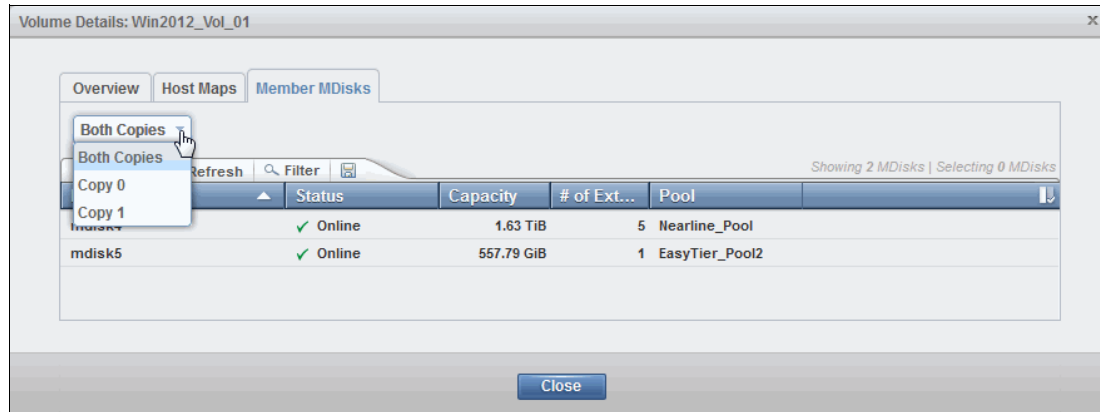

Figure 8-58 Member MDisk tab
1. If there are multiple copies of the volume, it is possible to select an individual copy, or choose to display **Both Copies**, as shown in Figure 8-58. The associated MDisks are displayed.